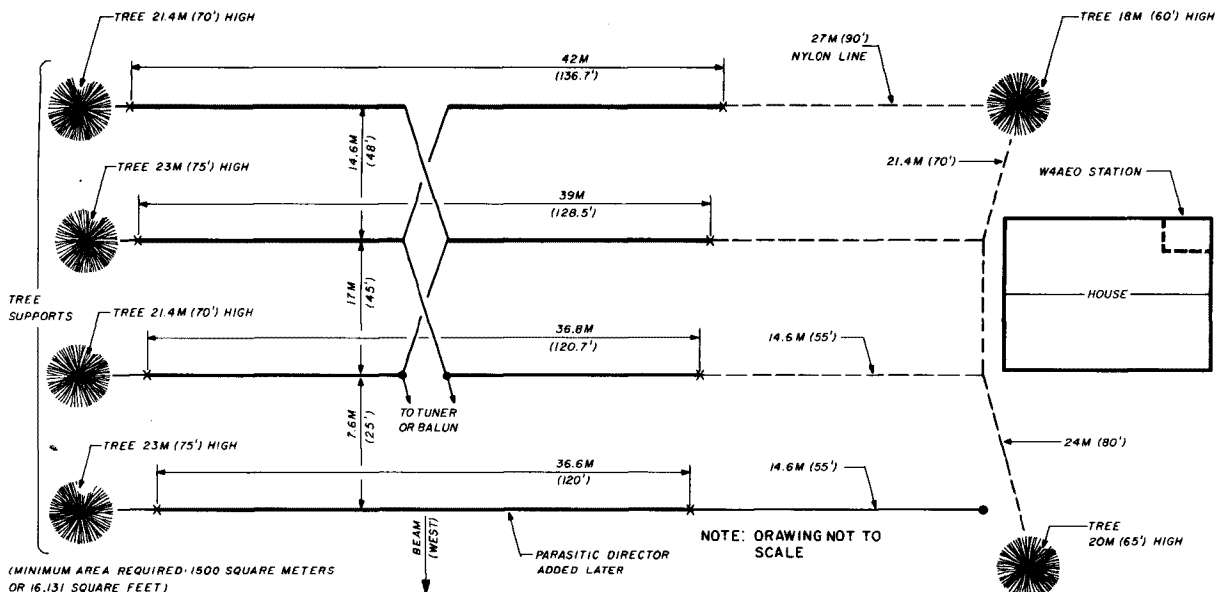

fig. 3. Plan view of the 3-element LP plus director for 3808 kHz (design suggested by W6PYK).
1. The delta loops (fed at corner's vertically polarized) have bidirectional lobes [plus the smaller high-angle center lobe (90 degrees), straight up]. Thus more than 50 per cent of the radiation is lost in unused lobe(s). Ref. 16, Fig. 10; Ref. 17, Fig. 7; or Ref. 18, Fig. 3.
Note that the element lengths are slightly longer than those given by the formulas. Paul suggested this to allow for ground effect, since the height of the beam above ground would be limited to about 18.3 meters (60 feet), or less than a quarter wavelength. This was evidently correct from the SWR data (table 2), which was taken after the beam was completed. A plan view of the beam, (fig. 3), shows method of support — several trees.